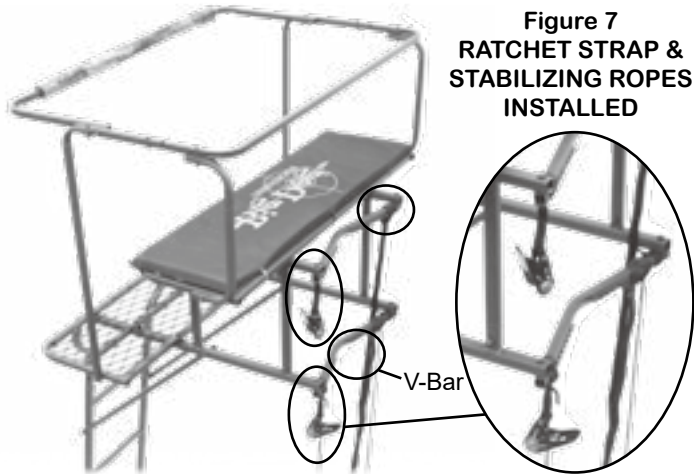
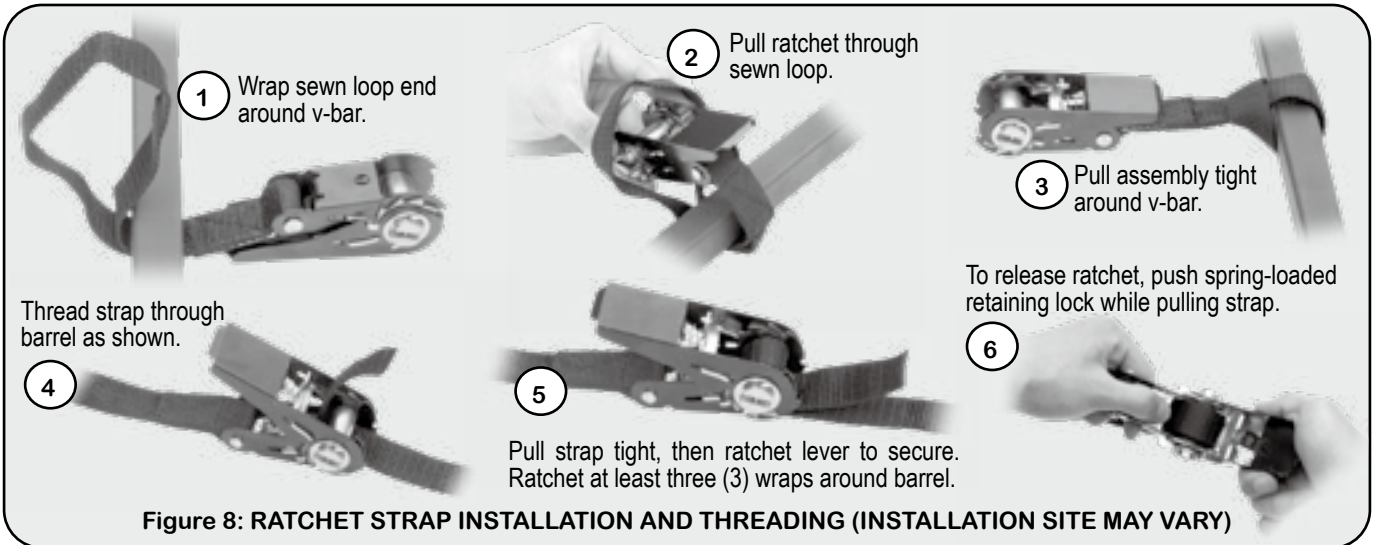

Figure 7
Figure 8: RATCHET STRAP INSTALLATION AND THREADING (INSTALLATION SITE MAY VARY)
STEP 4: Locate (2) looped ratchet straps (Q) (refer to Figure 1). Note: (1) looped ratchet strap (Q) consists of: 1-looped ratchet mechanism end and 1- 6' strap w/sewn loop at one end. Attach one set of the looped ratchet strap (Q) pre-sewn looped end(s) onto each side (left and right) of the UPPER v-bar (M) (located behind seat platform). Next, attach the second set of looped ratchet strap (Q) pre-sewn looped end(s) onto each side (left and right) of the LOWER v-bar (M) (located behind foot platform) as shown in Figure 7. For installation and threading instructions refer to Figure 9.
STEP 5: Locate two (2) 16' stabilizing ropes (R) (refer to Figure 8). Install the two (2) 16' stabilizing ropes (R) onto the lower v-bar (located behind foot platform (I)), tying one (1) 16' stabilizer rope onto each side of the v-bar as shown in Figure 7. Note: Attach by tying a secure knot. Allow both sets of looped ratchet straps (Q) (1-set secured to each of the v-bar's) and the two (2) 16' stabilizing ropes (R) to hang freely downward.
STEP 6: With three (3) or more adults, carefully raise the assembled ladder stand up until the ladder stand rests into the center of both v-bar's and the seat platform (G) and foot platform (I) are level. Note: DO NOT stand in the direct path or underneath any treestand at any time. If need to be, drive a stake into the ground at first ladder rung to prevent the ladder stand from sliding towards the tree while raising and lowering of the ladder stand.
Note: Review, understand, and follow all looped ratchet strap (Q) instructions for proper threading (refer to Figure 8) prior to leaving the ground to secure the looped ratchet straps (Q). Check to insure ladder sections are secured together with (4) quick pins (O) and (4) safety sleeve(s) (V) (refer to Figure 10 for safety sleeve assembly) and the quick pins are closed properly. Make certain the ground is firm and level under the bottom ladder section, and all 8'/16' stabilizing ropes (S/R) and the adjustable support bar assembly (T) is secured firmly against the tree.
STEP 11: Next, being extremely careful, slowly climb up while leaning forward with three (3) points-of-contact as you climb. Upon arrival to the foot/seat platform area and while standing on the ladder portion of your ladder treestand, attach your full-body fall arrest tether to the tree prior to securing the looped ratchet straps (Q). Next, wrap the (UPPER) looped ratchet strap (Q) (located behind the seat platform (G)) around the tree trunk and thread/secure as shown in Figure 8. Next, wrap the (LOWER) looped ratchet strap (Q) (located behind the foot platform (I)) around the tree trunk and thread/secure as shown in Figure 8. Tie off all loose ends. Always check ALL straps before each use for damage or wear. NEVER stand and/or kneel on the foot or seat platforms while securing or removing the looped ratchet straps (Q) to or from the tree.